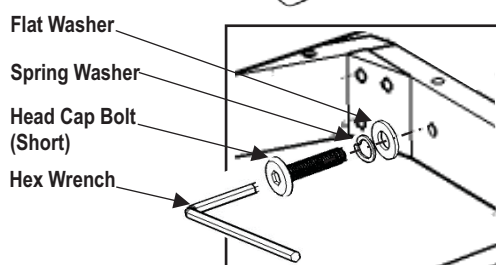
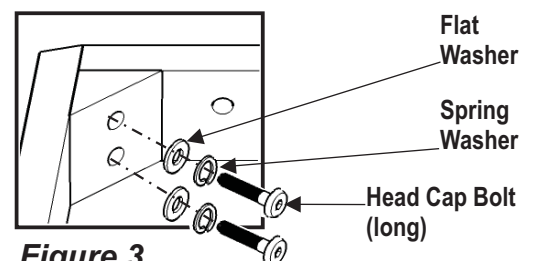

Figure 2
Figure 3
Attach the Back Frame (D) to the unit with Flat Washers, Spring Washers, Head Cap Bolts (Short), Head Cap Bolts (long) and Wood Screws. (see Figure 2) and (see Figure 3)